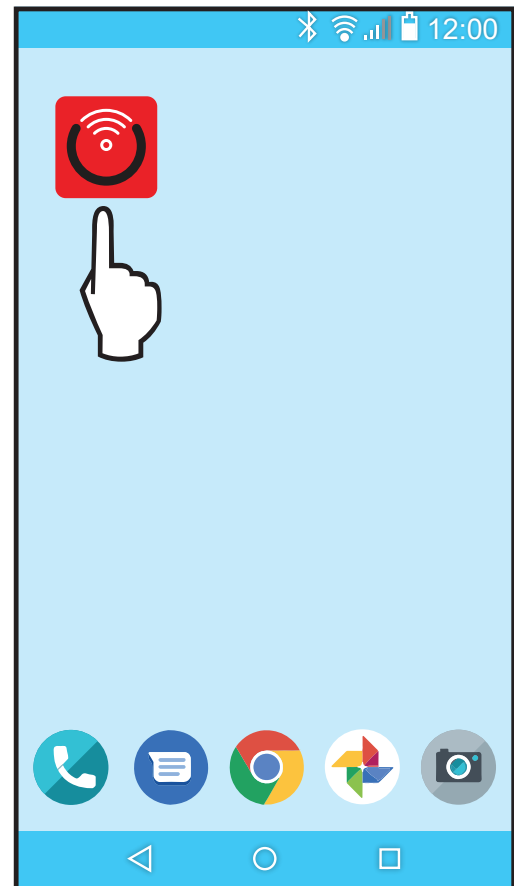

Figure 73. Find your Raymote Mobile App Icon
2. Find the Raymote mobile app icon on your device. See Figure 73.